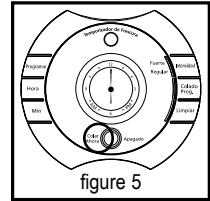

figure 5
1. After completing the steps in the “Adding Water and Coffee” section and with the decanter and the filter basket securely in place, turn the coffee maker on by pressing the select “Colar Ahora./Apag.” button once (Figure 5). The brew now “Colar Ahora” light will turn on and pulse to signal that the coffee maker is on and brewing.